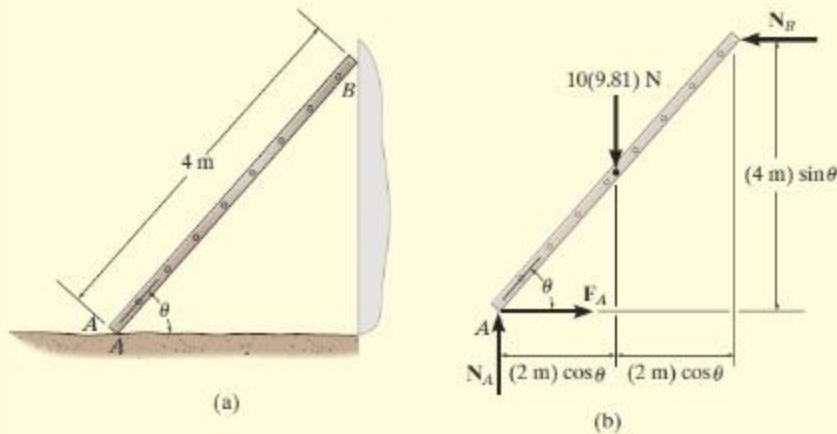

Fig. 8–9
The uniform 10-kg ladder in Fig. 8–9*a* rests against the smooth wall at *B*, and the end *A* rests on the rough horizontal plane for which the coefficient of static friction is  $\mu_s = 0.3$ . Determine the angle of inclination  $\theta$  of the ladder and the normal reaction at *B* if the ladder is on the verge of slipping.
**Free-Body Diagram.** As shown on the free-body diagram, Fig. 8–9*b*, the frictional force  $F_A$  must act to the right since impending motion at *A* is to the left.